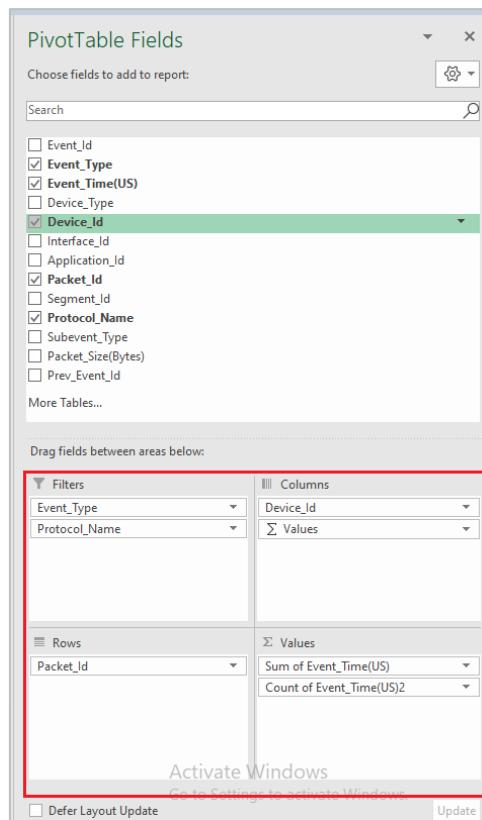

Figure 8-68: Selected Fields to one of the four areas Field list
5. Then finally the **Pivot Table Fields** will be as shown below Figure 8-68.